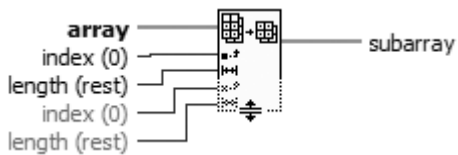
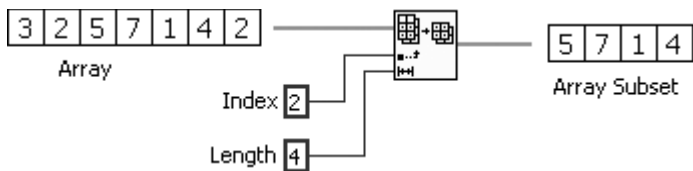

Figure 7.24
Figure 7.25
- **Array Subset** returns a portion of an array starting at **index** and containing **length** elements (see Figure 7.24). Notice that the third element's index is two because the index starts at zero; that is, the *first element has an index of zero* (see Figure 7.25).